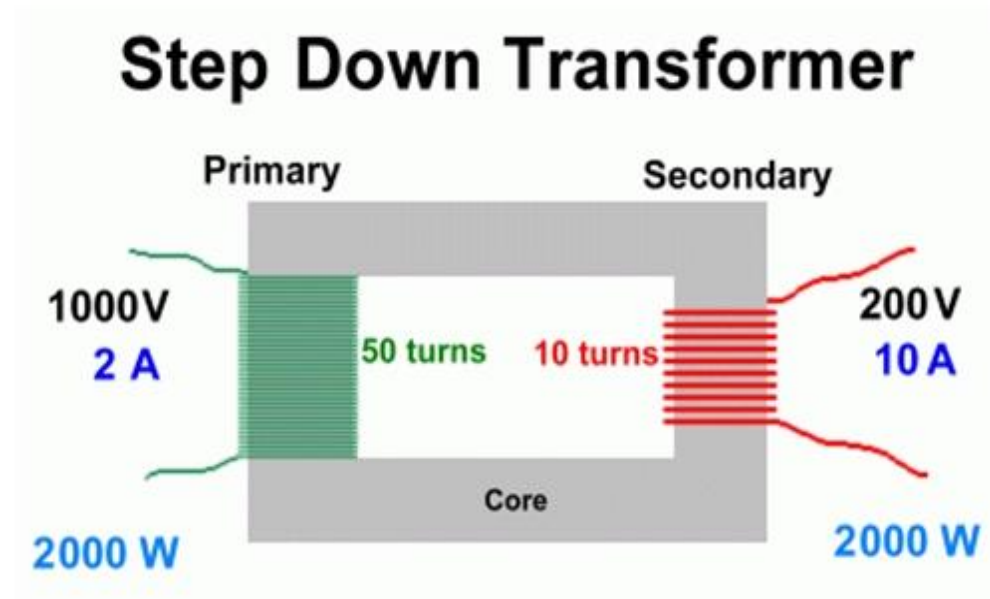

Figure 1 A Step Down Transformer designed for primary voltage  $V_p = 1000\text{V}$  (RMS value) and secondary voltage  $V_s = 200\text{V}$  (RMS value)
- To increase the transfer of energy from the device to the load, a transformer will be connected between the two. See one example below in Figure 1.
- The transformer in Figure 1 is designed to take 1000 volts RMS at input (primary winding) and produce 200 volts RMS at output (secondary winding).
- Hence, the secondary current for the transformer in Figure 1 is five times higher than the primary current.
- (b) Referring back to Figure 1, the average consumed power (also known as dissipated power or rate of energy consumption) is given by  $P = V_p I_p \cos\phi$ , where the power  $P$  is in watts, and the two RMS voltages  $V_p$  are in volts. The power factor, of course, is a unit-less quantity and, in the case under consideration, has already been given as unity.